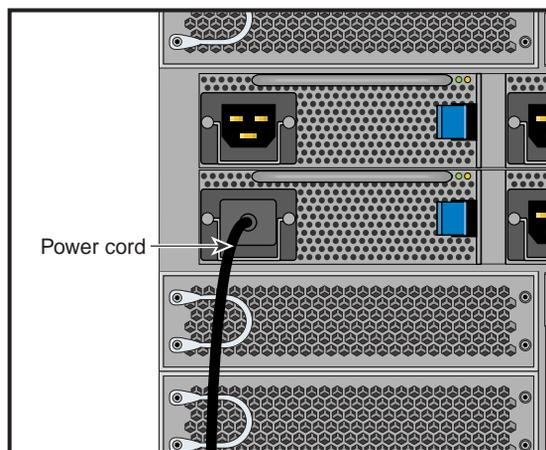

Figure 1-3 Blade Enclosure Power Supply Cable Example
2. For each individual blade enclosure pair that you want to power on, make sure that the power cables are plugged into all the blade enclosure power supplies correctly, see the example in Figure 1-3. Setting the circuit breakers on the PDUs to the “On” position will apply power to the blade enclosure supplies and will start each of the chassis managers in each enclosure. Note that the chassis managers in each blade enclosure stay powered on as long as there is power coming into the unit. Turn off the PDU breaker switch that supplies voltage to the enclosure pair if you want to remove all power from the unit.